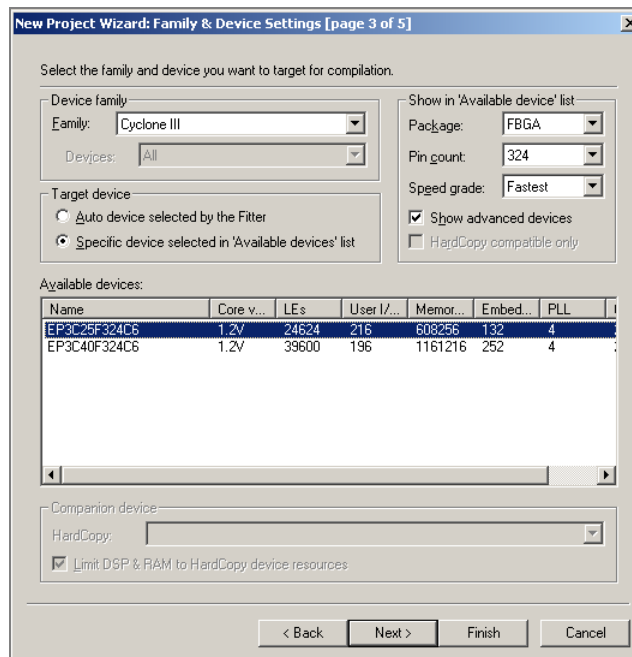

Figure 4: Enter the settings for the family, package, pin count and speed grade
6. The “Family and Device Settings” will appear. Enter the settings for the Family, Package, Pin Count and Speed Grade as shown in Figure 4 below. For the Altera Cyclone III Started board, enter the following settings and click “Next>”: